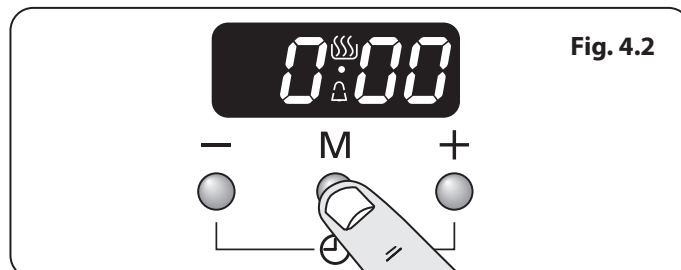
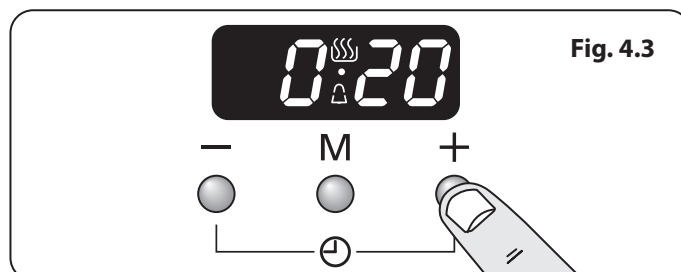

Fig. 4.2
Fig. 4.3
1. Press the mode [M] button once (Fig. 4.2). The bell symbol [🔔] will flash on the display. Select the desired countdown from 00:01h to 23:59h using the [+] button (Fig. 4.3). The countdown will automatically begin and the [🔔] symbol will show in the display.